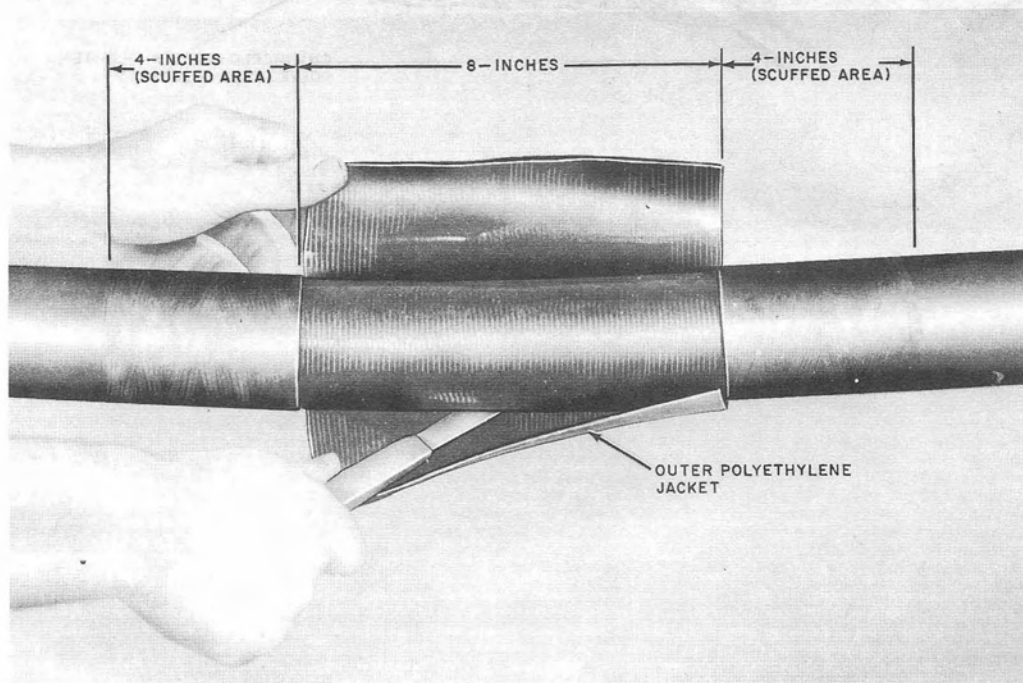

Fig. 15—Removing Outer Polyethylene Jacket
- (c) With a cable knife or similar cutting tool, cut and remove the outer polyethylene jacket (Fig. 15).